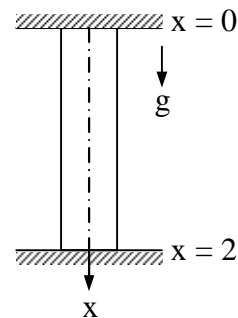

Fig. 6
- b) Derive an equation for finding out the potential energy by Rayleigh-Ritz method. Using Rayleigh-Ritz method, find the displacement of the midpoint of the rod shown in Fig.6. Assume $E = 1$, $A = 1$, $\rho g = 1$ by using linear and quadratic shape functions concept.